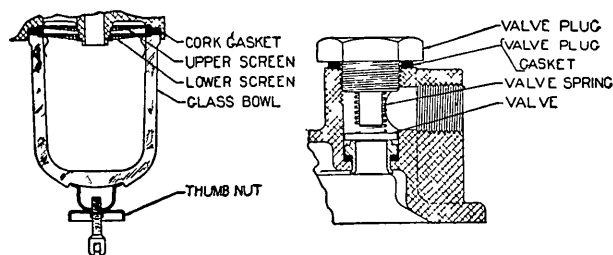

Fig. 4
**All models equipped with fuel pump feed** have strainer screens in the top of the gasoline bowl at the fuel pump (Fig. 4) and at the carburetor.